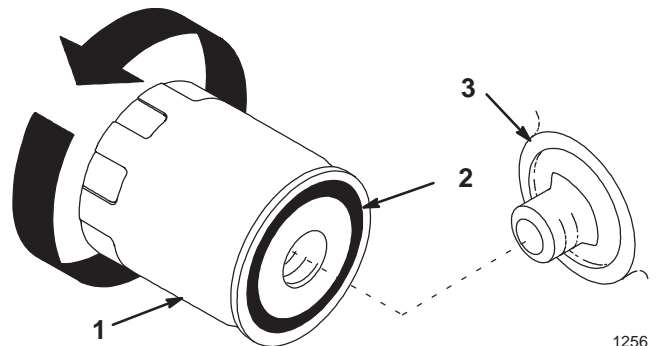

Figure 20
- Remove the old filter and wipe the filter adapter (Fig. 20) gasket surface.
- Apply a thin coat of new oil to the rubber gasket on the replacement filter (Fig. 20).
- Install the replacement oil filter to the filter adapter. Turn the oil filter clockwise until the rubber gasket contacts the filter adapter, then tighten the filter an additional 1/2 to 3/4 turn (Fig. 20).